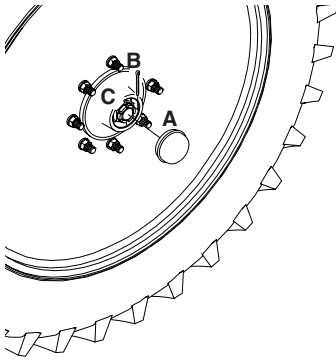

Fig 44
- 4 Remove the hub cap (**A** Fig 44) and cotter pin (**B** Fig 44). Turn the wheel and tighten castelated nut (**C** Fig 44) until slight resistance in wheel rotation is felt.